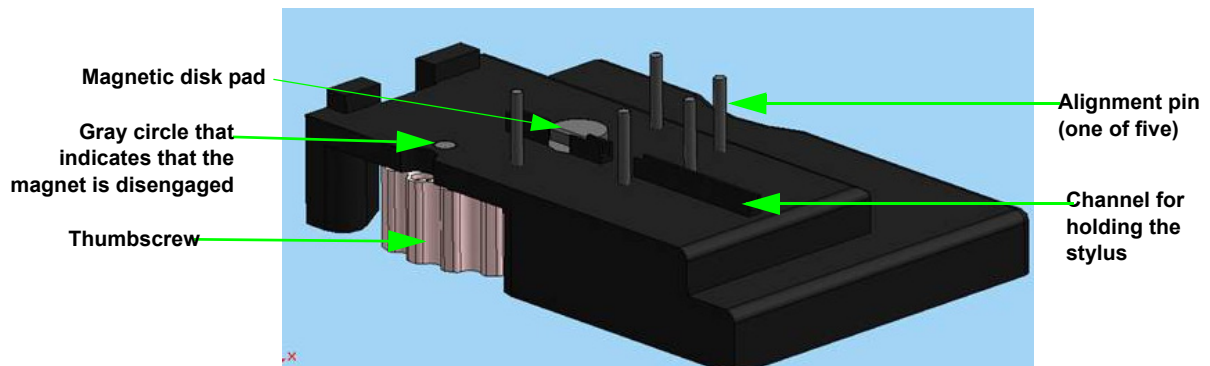

Figure 3-21: Stylus Exchange Tool with Its Magnet Disengaged
- 2 Locate the stylus exchange tool. If its green circle is visible, rotate the thumbscrew in either direction to disengage the magnet and replace the green circle with a gray one. (This means that the magnet is NOT engaged as shown in Figure 3-21.)
- 4 Align the magnetic disk pad of the stylus with the magnetic disk pad on the stylus exchange tool (see Figure 3-21).